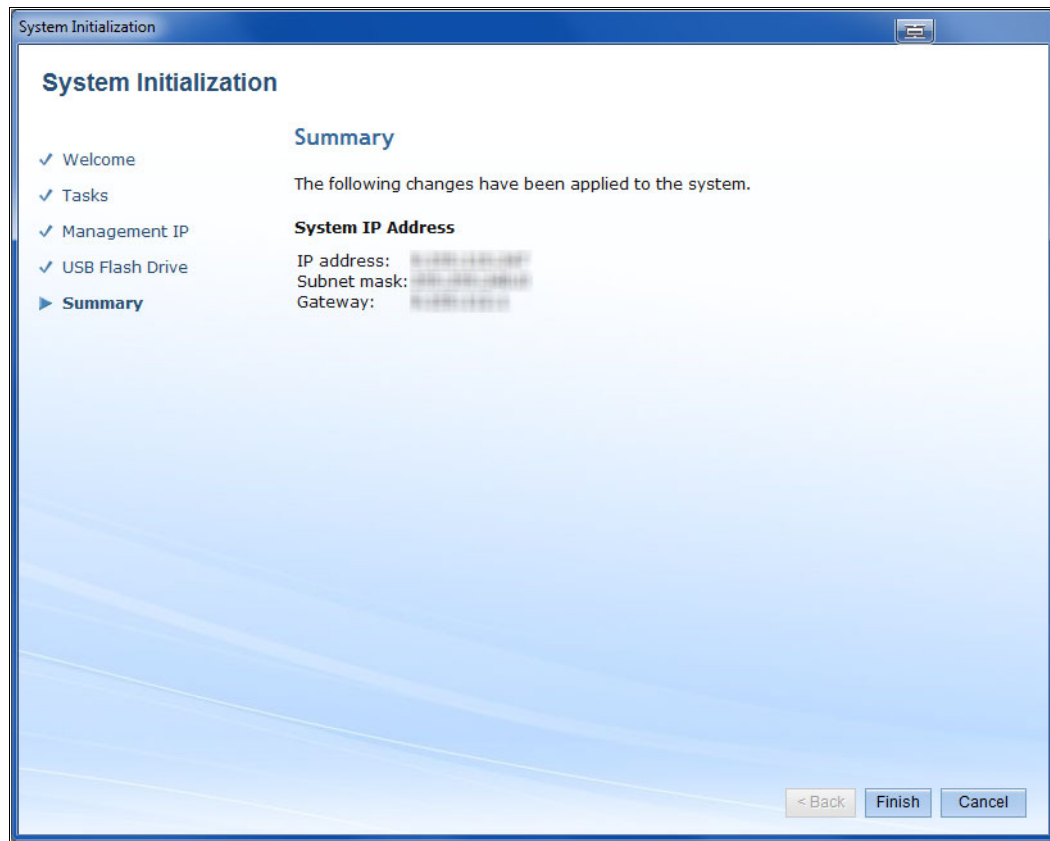

Figure 4-15 Summary
5. Use the InitTool final window to review the results of the initialization (a summary window is shown in Figure 4-15 on page 98).
When connectivity is successful, the Summary window opens, as shown in as Figure 4-15 on page 98.